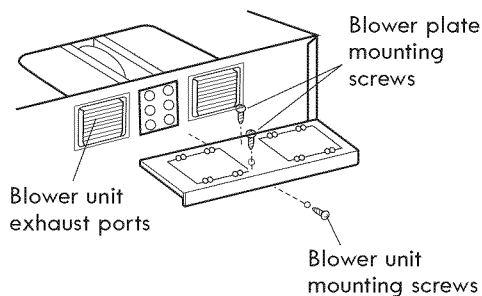

Figure 17
7. Reattach the blower plate to the top of the cabinet as it was originally assembled. Attach with one blower unit mounting screw and then two blower plate mounting screws. See Figure 17.